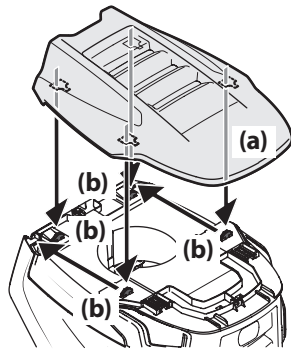

Figure 6
- To install the snap-on hood topper (a), line up the holes on the hood topper (a) up with the tabs (b) in the hood frame as shown in Figure 6.